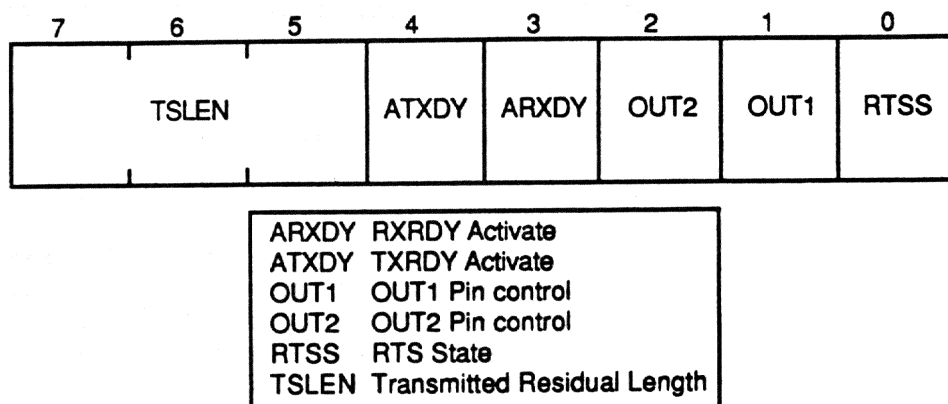

Figure 7-19: The DUSCC Output and Miscellaneous Register
7.2.13.2 Output and Miscellaneous Register (OMR) - The Output and Miscellaneous Register (OMR) for each channel controls the state of the RTS output pin, shows the state of the FIFOs on the device, and sets the length of the last information character sent for each packet. Figure 7-19 shows the format of the register, and Table 7-19 explains the use of each bit.